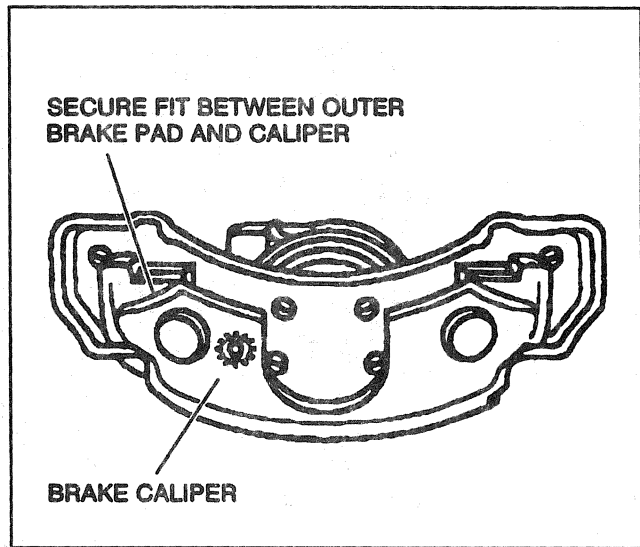

Figure 10—Outer Brake Pad Secured to Caliper
3. Compress the brake pad tangs as necessary to obtain a secure fit between the outer brake pad and the caliper (Figure 10).